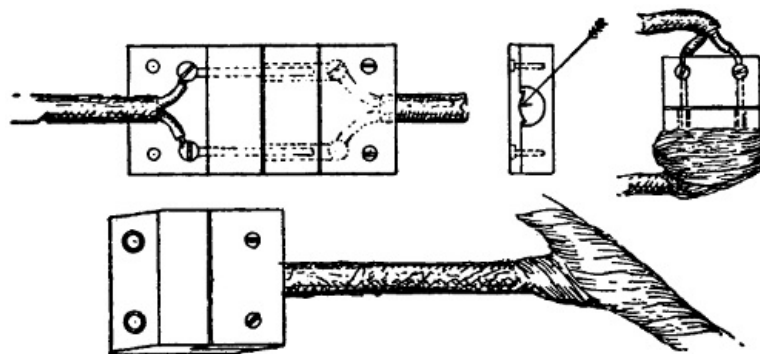

FIGURE 205.
*Pin-Plug Connectors.*—These are provided to connect cables to effects used on the stage. The essential points of a good connector are: It should grip the whole cable, thus making it unnecessary to strip the outer braid from any exposed part of the cable; and it should offer no live screws or contacts on the outside. These conditions are fulfilled by the connector shown in Figure 205. In some of these connectors, however, the part that grips the cable (indicated by the arrow) is made of metal, and this, if forced down too tight, may cut into the cable and cause a short circuit. Several instances of this kind have been known to occur. Pin-plug connectors must always be connected so that the projecting pins are dead when the plug is disconnected.
A special warning against the use of such connectors as are illustrated at the right of Figure 205 is necessary. Their cheapness brings them into use very often, especially with acts that do not